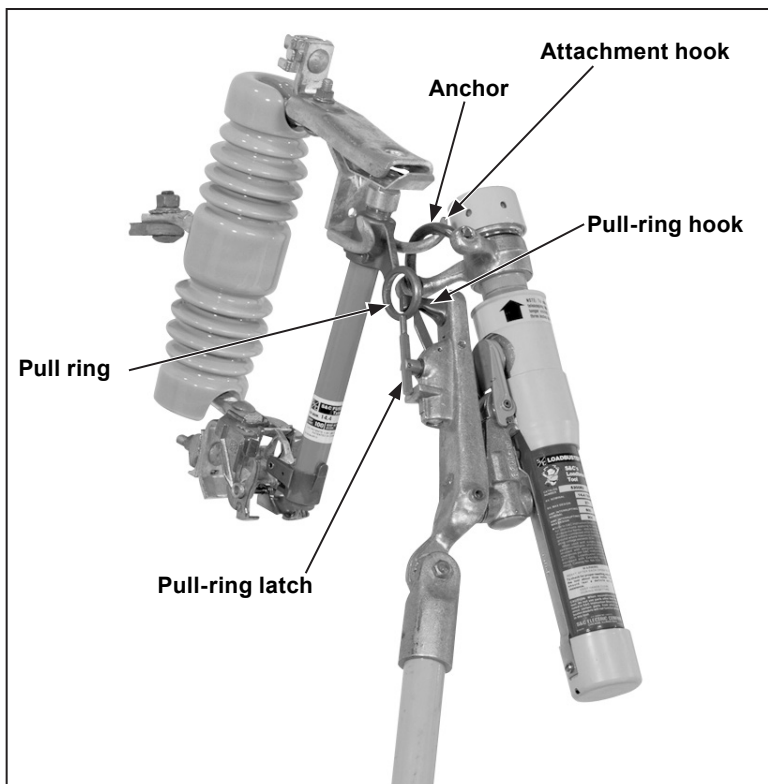

Figure 4. Loadbuster connected to MPS Type XS Fuse Cutout, Outdoor Distribution.
**Step 1** Reach across in front of the fuse cutout with Loadbuster and hook the anchor, located at the top of Loadbuster, over the attachment hook on the far side of the fuse cutout. See Figure 4.
**Step 2** Swing Loadbuster toward the fuse tube and pass the Loadbuster pull-ring hook through the pull ring on the fuse tube. The pull-ring latch will deflect and upon complete entry of the pull ring, will spring back, locking Loadbuster to the pull ring. Loadbuster is now connected across the upper contact of the fuse cutout. See Figure 4.